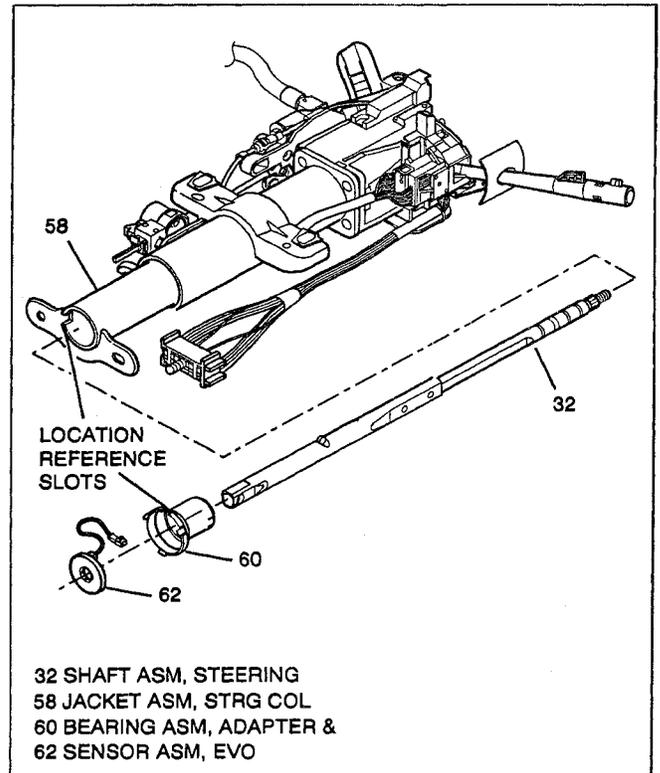

Figure 26 - Removing Steering Shaft Assembly
3. Evo sensor asm (62) and Adapter & bearing assembly (60) to steering column jacket assembly (58). (See Figure 26).
- Position tab on adapter & bearing assembly (60) with slot in steering column jacket assembly (58) and push together.
4. Cplg & Strg shaft assembly (68) or Yoke & Inter Strg shaft assembl (64) to shaft assembly (32).